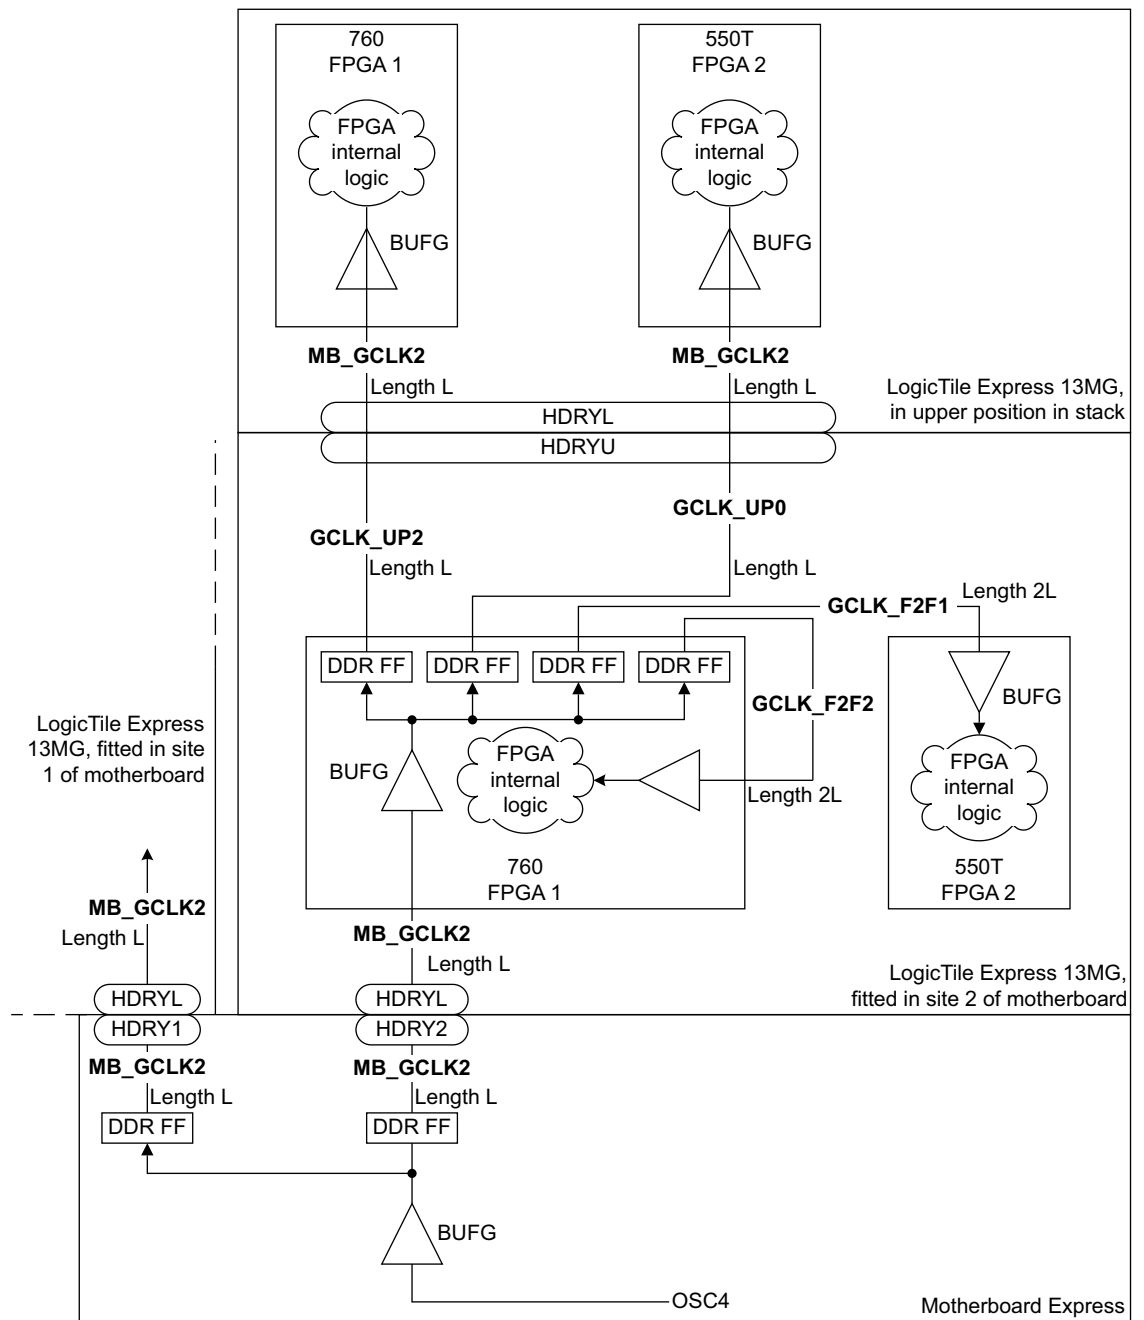

Figure 2-15 Distribution of global clocks to stacked daughterboards
The V2F-2XV6 13MG daughterboard is designed to enable two daughterboards for each motherboard site to have a common synchronous clock. Figure 2-15 on page 2-24 shows the recommended clocking scheme to distribute a global clock from the motherboard to two stacked daughterboards. You can use this scheme in both motherboard sites to enable four daughterboards to share a common synchronous clock.
- Figure 2-15 shows the recommended scheme to distribute the global clocks to stacked V2F-2XV6 13MG daughterboards occupying the motherboard sites. Figure 2-15 shows the clocking scheme for site 2, and the same clocking scheme for site 1 is indicated by the partial block on the left of Figure 2-15.